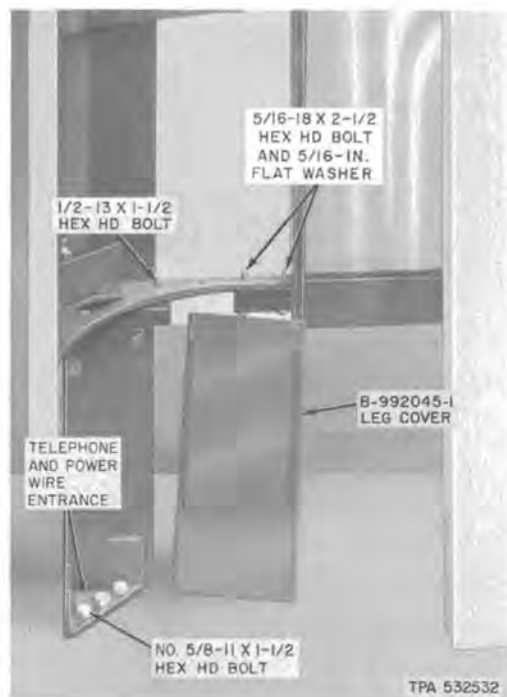

Fig. 21—Assembly of Kiosk, Leg, and Bottom Panel Support
- (6) Raise kiosk into position over base assembly and secure legs to base using six 5/8-11 by 1-1/2 inch hex head bolts (Fig. 21) which are furnished. See **THINK** under (4).
- (7) Do not install leg covers at this time.
- (8) Remove all packing material from kiosk including remaining part of bottom skid.
- (9) Loosen the eight bolts installed in (4) and level the kiosk with the six leveling studs installed in (5). When the kiosk is perfectly level, tighten the eight bolts.
3.16 Install the leg covers as follows (Fig. 21 and 22):
- (a) Loosen four 5/16-18 by 2-1/2 hex head bolts (Fig. 21) which secure lower support to frame.